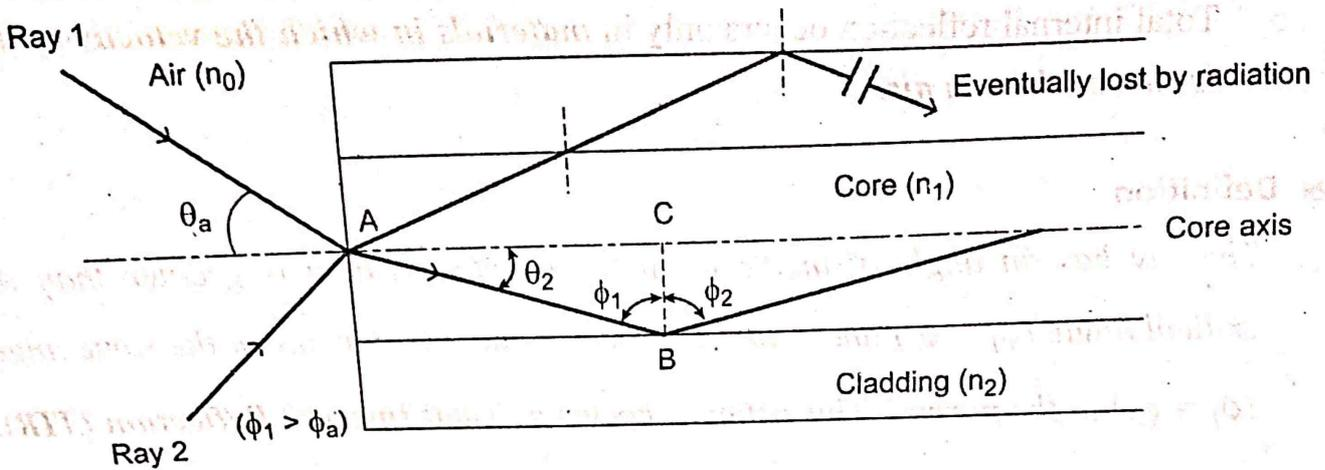

Fig 1.11 The acceptance angle (θ_a) when launching light into an optical fiber
- ♣ The Figure 1.11 shows a light ray incident on the fiber core at an angle (θ_a) which is the maximum angle to the axis at which light may enter the fiber in order to be propagated, and is often referred to as the *acceptance angle* for the fiber.